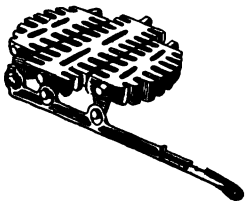

FIG. 1-a. Grate.
These grates are usually reversed by a stove shaker. (Fig. 1-a shows a detailed drawing of a grate.) The housekeeper must understand how this is done in order to avoid reversing them when she shakes down the ashes. Two difficulties arise in reversing the grate when the stove is filled with fuel. The coal may be wasted by falling thru the part intended for wood, or pieces of fuel may fall between the parts so that they cannot be moved. When this happens, it is best to let the fire go out, take out the fuel, adjust the grates as they should be and rebuild the fire.
**3. Drafts or Dampers.** There are from three to six dampers on a stove (Figs. 1 and 2), as follows: